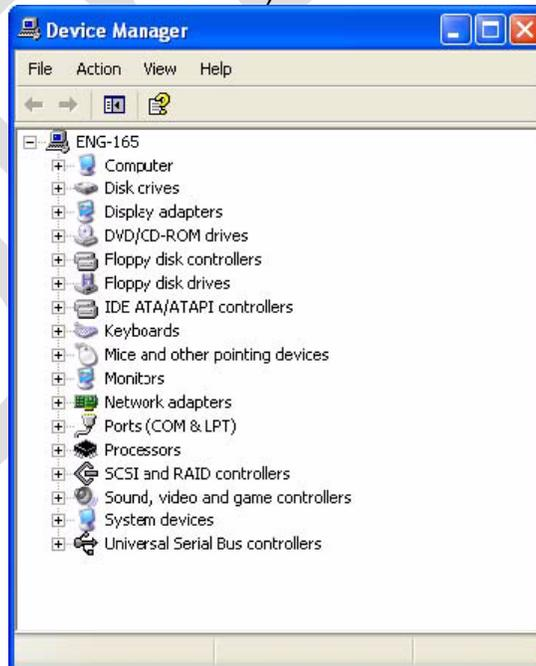

Figure 8-10 Device Manager
4. Click the **Device Manager** button. (Figure 8-10).